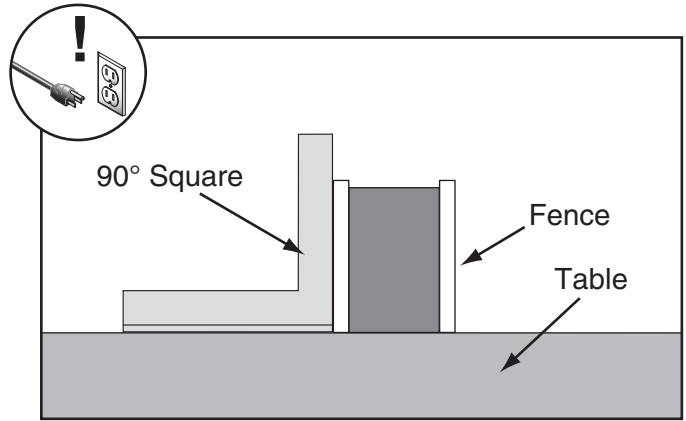

Figure 2. Example of checking fence squareness to table.
2. Place square on table against face of fence (see **Figure 2**) to check if fence is square to table.